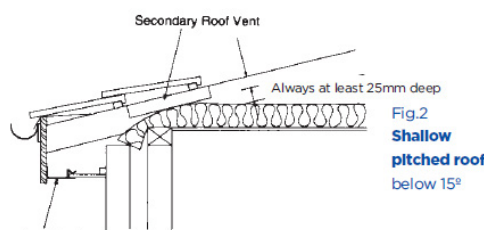

Fig.2
- With a pitched roof where the pitch of the roof is less than 15 degrees and the roof space is an attic or loft a free airflow is required which is equivalent to a continuous 25mm opening (25,000 mm² per metre run). See Fig. 2
- With a pitched roof where the pitch of the roof is less than 15 degrees and the roof space is an attic or loft a ventilation channel at least 25mm deep must be maintained between the roof insulation and the underside of the roof covering. See Fig. 2